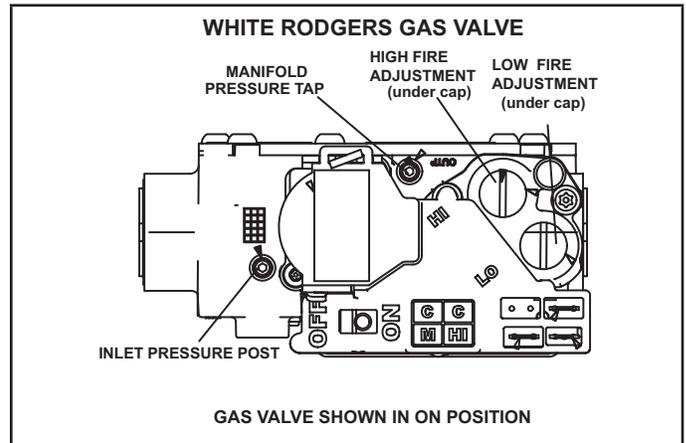

FIGURE 52
- 3 - Install the cap over the clean out opening at the base of the trap. Secure with clamp. See FIGURE 50 (3/4" drain connection) or FIGURE 52 (1/2" drain connection)
Gas Valve Operation (FIGURE 52)
- 6 - Move gas valve switch to **OFF**. See FIGURE 52.
- 8 - Move gas valve switch to **ON**. See FIGURE 52.
An inlet pressure post located on the gas valve provides access to the supply pressure. See FIGURE 52. Back out the 3/32 hex screw one turn, connect a piece of 5/16 tubing and connect to a manometer to measure supply pressure. See table 28 for supply line pressure.
A manifold pressure post located on the gas valve provides access to the manifold pressure. See FIGURE 52. Back out the 3/32 hex screw one turn, connect a piece of 5/16 tubing and connect to a manometer to measure manifold pressure.
- 4 - After allowing unit to stabilize for 5 minutes, record low fire manifold pressure and compare to value given in table 28. If necessary, make adjustment. FIGURE 52 shows location of low fire adjustment screw.
- 5 - Repeat on high fire and compare to value given in TABLE 28. If necessary, make adjustment. FIGURE 52 shows location of high fire adjustment screw.